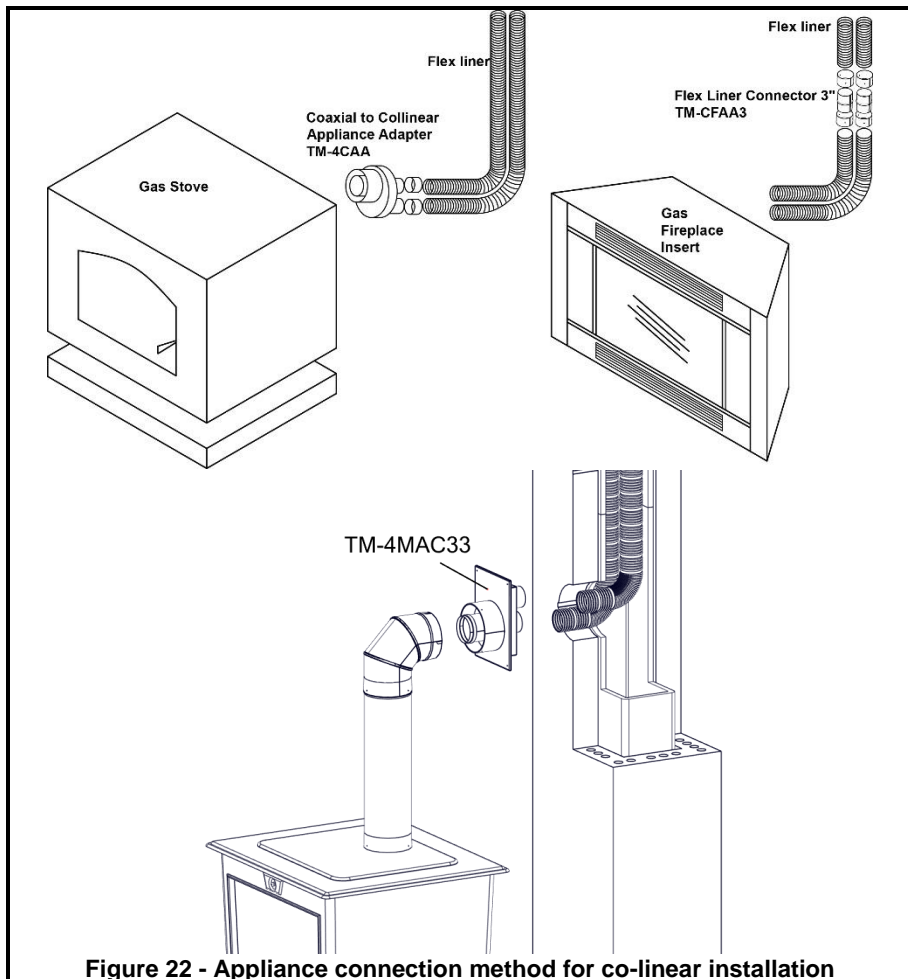

Figure 22 - Appliance connection method for co-linear installation
If you have to join two lengths of flex liner together use the Flex Liner Connector (CFAAØ) as shown in Figure 22.
6. Depending upon the type of connection your appliance has, it will require you to connect the two flex liners directly to the appliance or to install a Co-axial to Co-linear Appliance Adapter (4CAA) or Co-linear Masonry Adapter (4MAC33). See Figure 22.